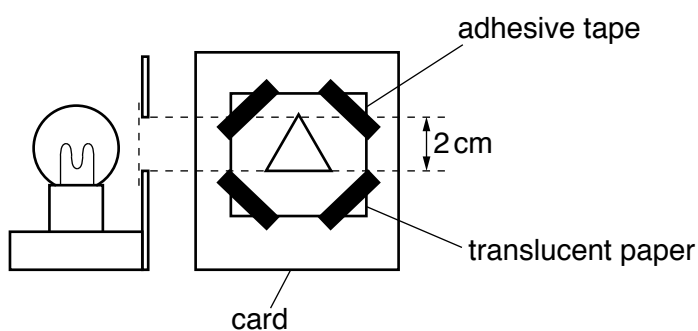

Fig. 4.1
- (iv) Illuminated object consisting of a white rigid card with a triangular hole of height approximately 2 cm. See Fig. 4.1 and notes 1 and 2. The back of the hole is to be covered with thin translucent paper (e.g. tracing paper) secured with adhesive tape. The front of the card forming the object should be white or light in colour.